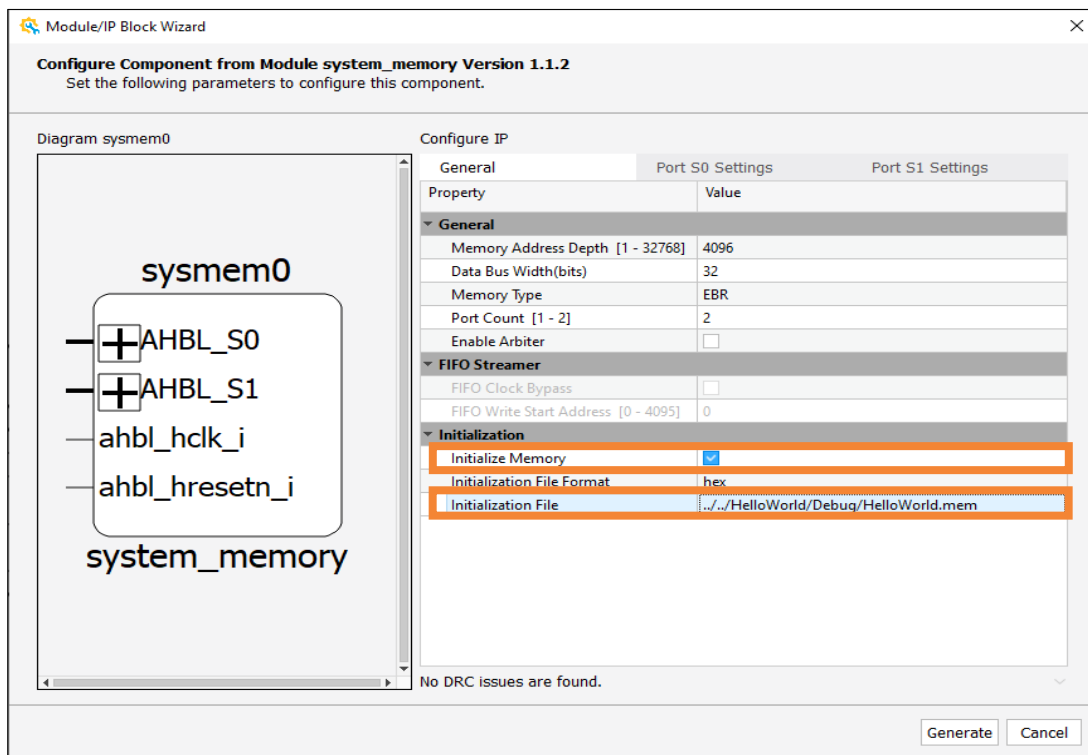

Figure 4.5. Configure Module System Memory 2
- (Optional) In Lattice Propel Builder, update the SoC design to set the preloaded software. Enable the checkbox for **Initialize Memory** for system_memory IP module from the **Initialization** area of the **General** tab, and set **Initialization File** (Figure 4.5) generated from the corresponding Hello World C project in the **Creating Hello World C Project** section.